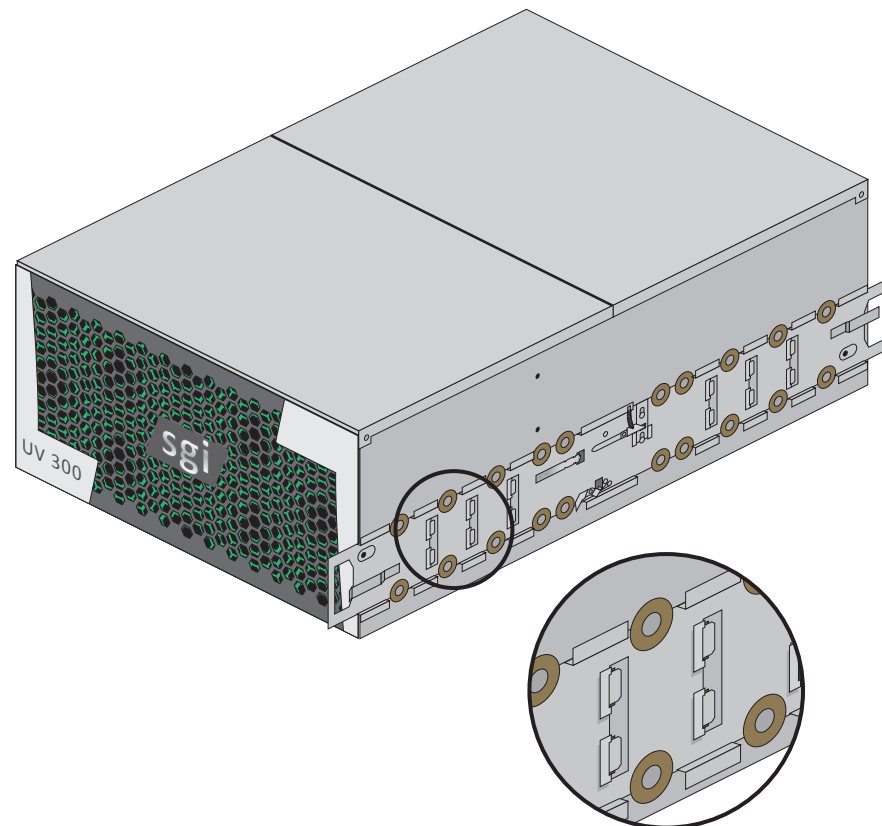

Figure 7-8 Lock on to Support Tabs
3. Slide the rolling rail beneath the support tabs on the side of the chassis until it locks firmly into place (see Figure 7-8 on page 87).